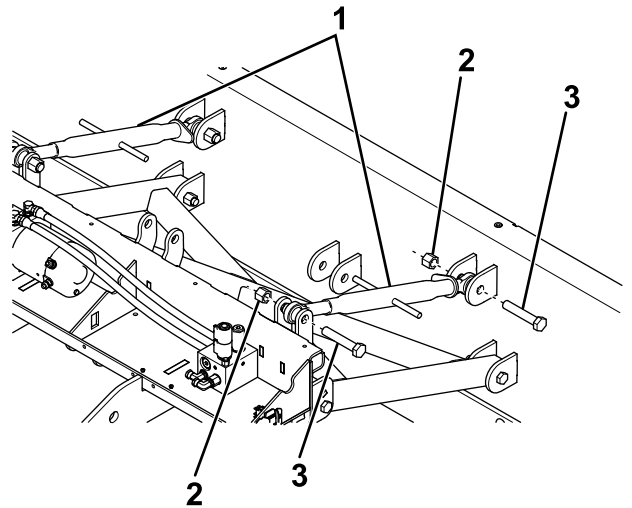

Figure 6
3. Loosely attach the top links to the upper brackets on the center blade using 2 bolts (3/4 x 4 inches) and locknuts as shown in Figure 6.
4. Loosely attach the top links to the upper brackets on the coupler assembly using 2 bolts (3/4 x 4 inches) and locknuts (Figure 6).